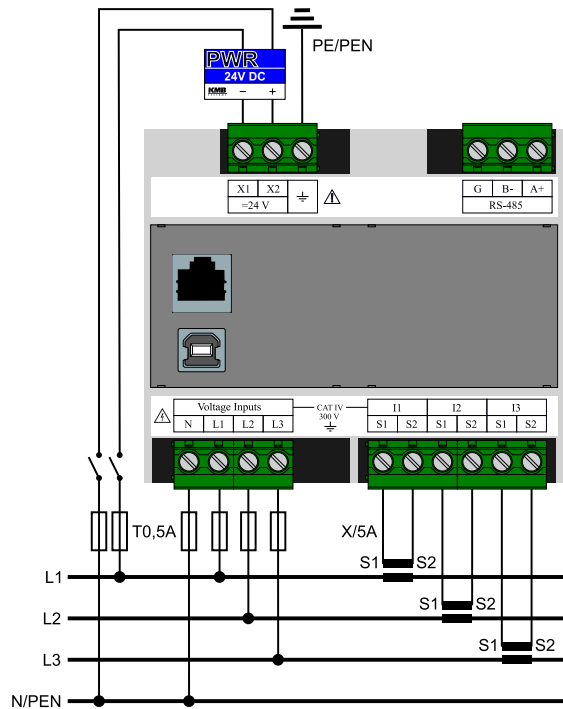

Figure 5: An example of a typical connection of SMC 233 in a LV network - wiring a measured voltage to a star in a four-wire network.
Option „X/5A“ The secondary CT winding of nominal 5 A or 1 A must be fed to the terminals S1 and S2 of the current inputs I1, I2 and I3. Figure 5 illustrates the correct connection with the CTs in the LV network.
- For direct measurement (see eg Fig. 5 set the multiplier value to 1 — default value.